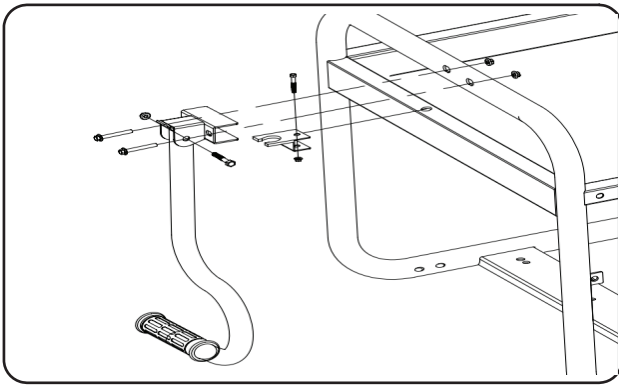

Fig 1
## Attaching Handle (See fig 1)
- Install handle bracket to generator frame. (fig. 1)